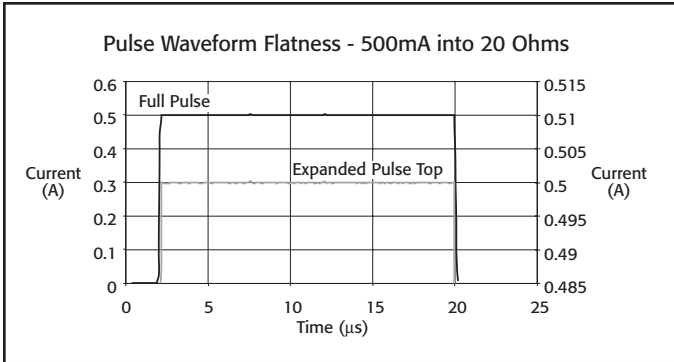

Figure 1
7. Figures 1 and 2 are typical pulse outputs into resistive loads.